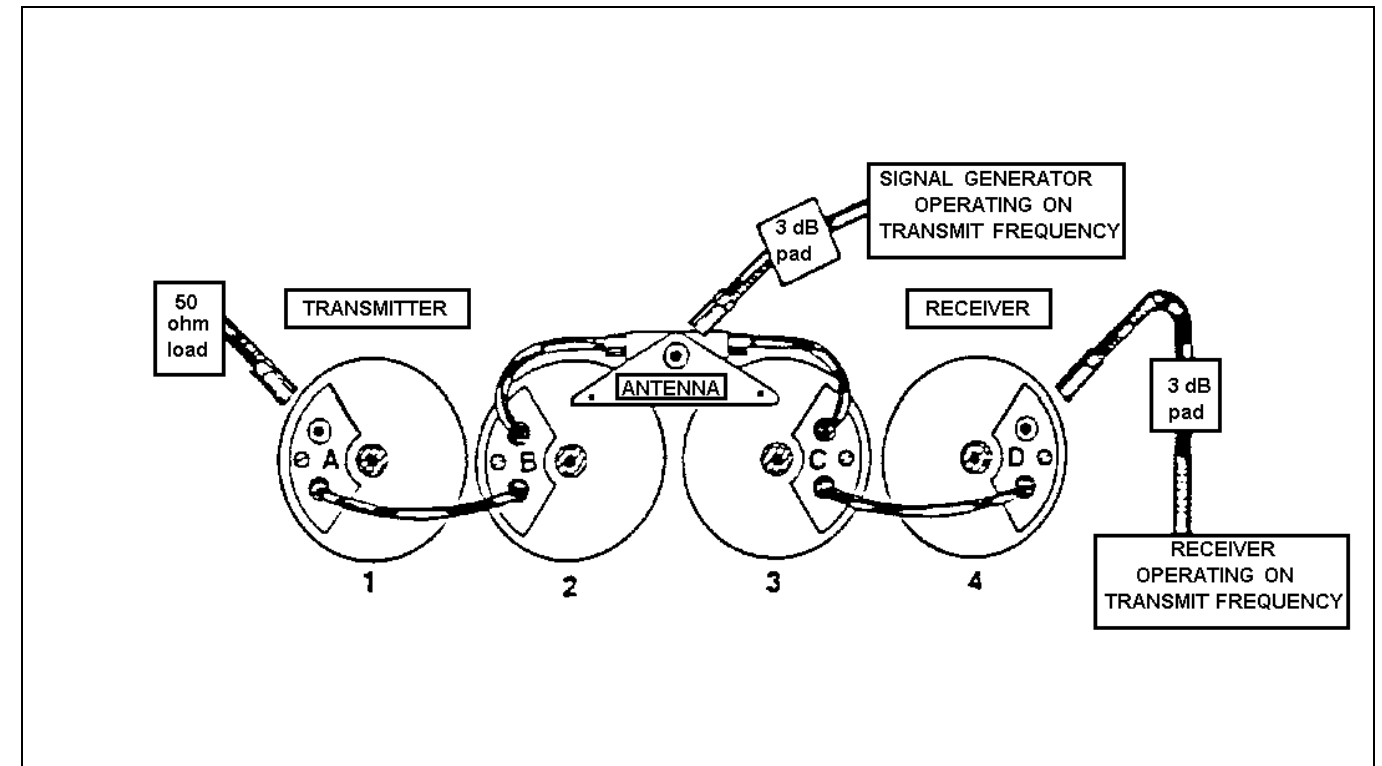

Figure 9
15. Connect the equipment to the duplexer as shown in Figure 9.